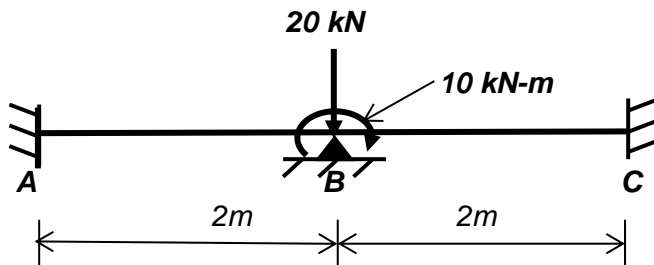

Figure Q.3
- Q.3. Determine the slopes, shear forces and bending moments at the supports for the beam loaded as shown in Figure Q.3 using matrix methods of analysis. $E = 200 \text{ kN/mm}^2$ and $I = 2E6 \text{ mm}^4$ for all members